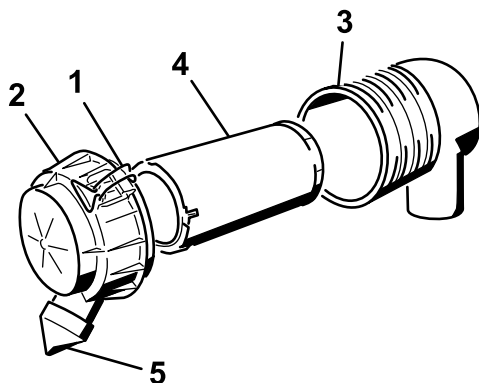

Figure 28
3. Release the latches on the air cleaner and pull the air-cleaner cover off the air-filter body (Figure 28).
6. Gently slide the filter out of the air-filter body (Figure 28).
8. Carefully install the filter (Figure 28).
9. Install the air-cleaner cover with the dust cap oriented downward and secure the latches (Figure 28).